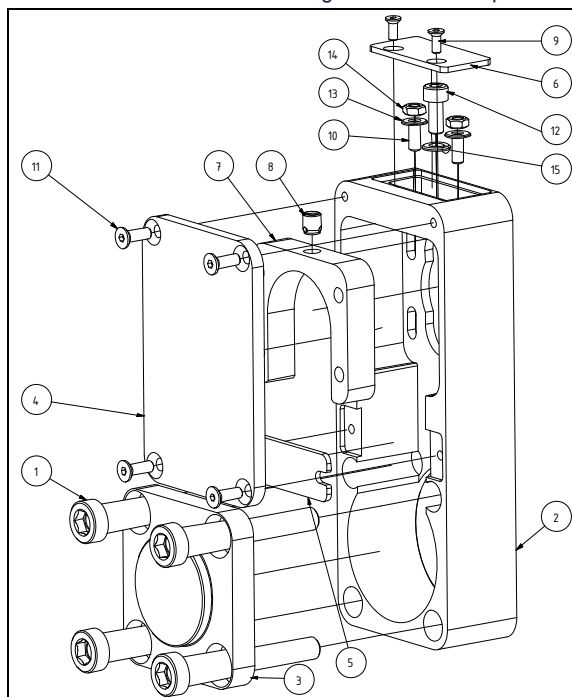

Figure 1: Parallel housing
- ◆ Remove lid (Fig. 1 Pos. 6) and screws (Fig. 1 Pos. 9).
- ◆ Remove lid (Fig. 1 Pos. 4) and screws (Fig. 1 Pos. 11).
- ◆ Loosen central toothed belt tensioning screw (Fig. 1 Pos. 12).
- ◆ Loosen tightening screw (Fig. 1 Pos. 12) until the drive unit is not lowered any further.